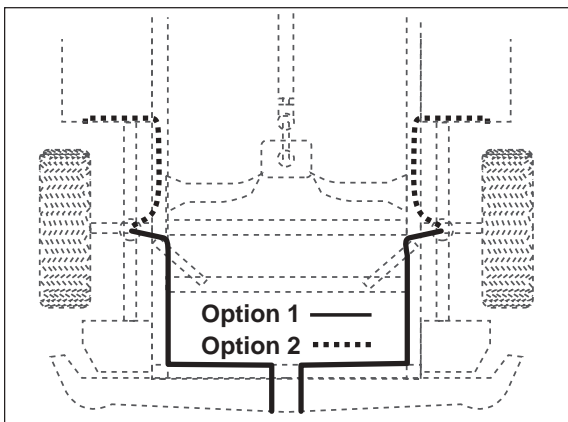

Figure 12
1. Select a location for the inflation valves in the rear bumper area or rocker panel flange ensuring that each valve will be protected and accessible with an air hose (Figure 12).
2. Route air line along frame from inflation valve location to the air fitting (Figure 12). Attach air line to chassis with the provided plastic straps.